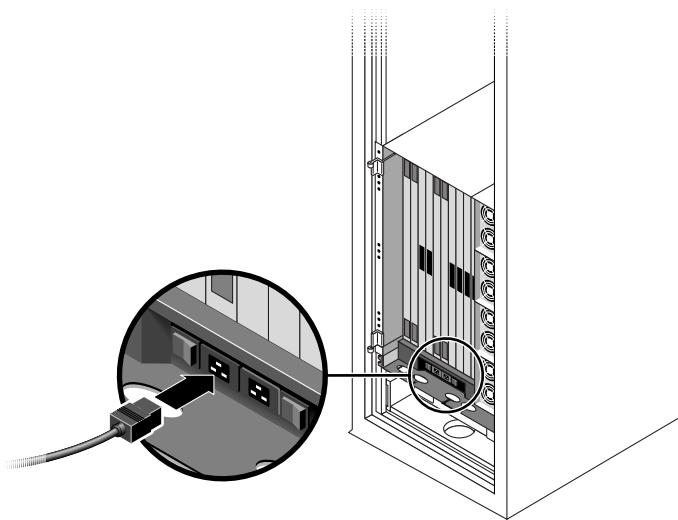

FIGURE 4-14 Attaching the Power Cords to the Director
8. (Optional) Provide power to the director. See FIGURE 4-14.